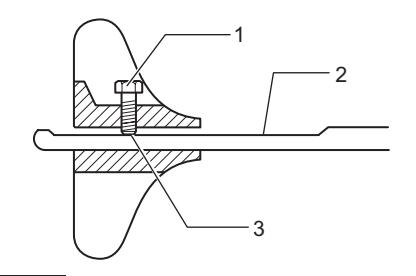

Fig.7
► Fig.7: 1. Hex bolt 2. Shaft 3. Flat surface